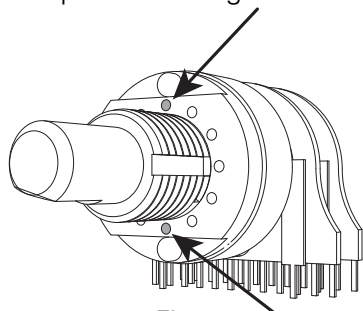

Fig. 1
1. Preparation of the rotary switch consists of inserting the two limiter pins into the 12 o'clock and 6 o'clock position then applying the foil sticker to retain the pins in place. This will limit the switch to 6 positions and ensure it works correctly as a 4P6T switch. See Fig. 1 for details. Ignore the position of the flat on the shaft when installing the knob, instead align the knob to the front panel markings.